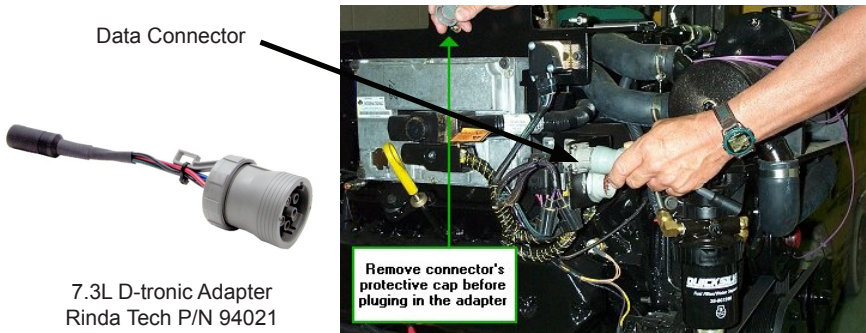

Figure 36
The TechMate scan tool fully supports the D-Tronic fuel injection system found on 1997-Up 7.3L MerCruiser diesel engines. The 7.3L D-Tronic system is equipped with a diagnostic data connector which is located near the rear of the engine as shown in Figure 36.
- 1) Locate the D-Tronic data connector as shown in Figure 36. Remove the data connector's protective cover.